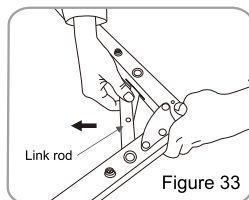

Figure 33
5. Pull up the corner link rods on the main frame and unfasten the turning joints on the vertical side of main frame (Figure 33 - 34).